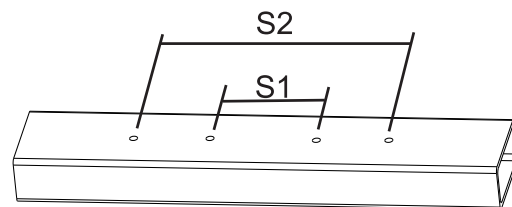

Figure 3
2. Drill two holes of distance S1 or S2 on the mounting bar (Fig. 3)